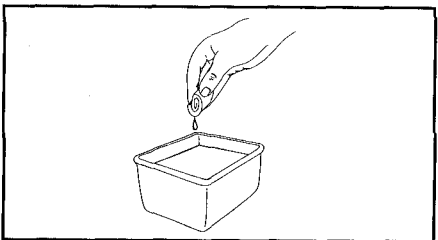

Fig. 31
3. Wash the filter in detergent and water (Fig. 31). Rinse the filter thoroughly and allow it to dry.